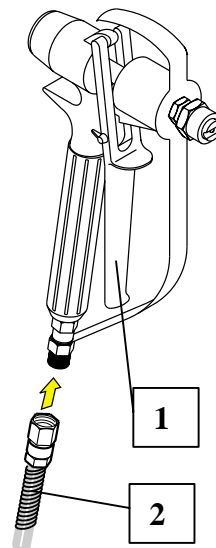

Fig.19
- 3) Connect the spray gun to the pipe and tighten with spanner (fig. 19). Making sure that it is clean.